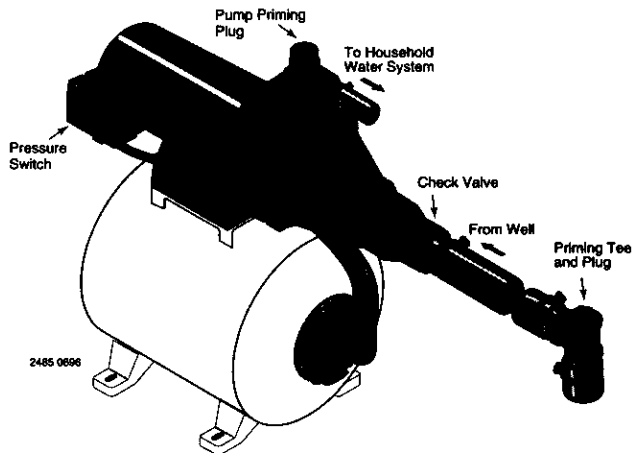

Figure 1 – Connections to water system
When using a foot valve, a priming tee and plug as shown in Figure 1, are recommended.
1. Remove priming plug (Figure 1, Page 4).